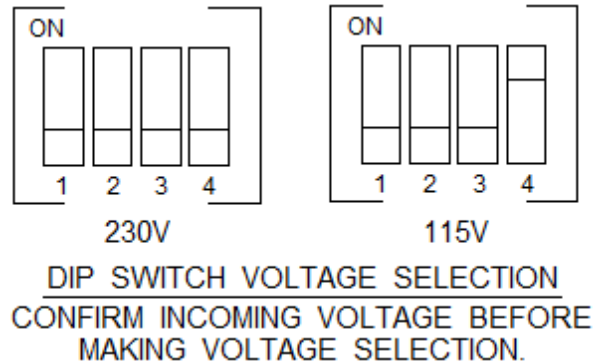

**Figure 1 – High and Low Voltage Compartments**
There are two voltage options when operating the 1.65THP pool pump motor. In this case, the motor operates on either 115 or 230 Vac electrical power. Voltage selection is set via the Dip Switch on the Drive Interface Board located in the Low Voltage Compartment. See Figure 1 on **page 10**. Refer to the section of the manual covering DIP Switch settings on **page 28**. Operating the 2.25 and 2.7THP motors requires 230 Vac. In this case, no change to the DIP Switch is necessary.
1. Remove the four (4) slotted head hex washer screws securing the User Interface Cover to the wiring compartments (Figure 1). Set the cover aside.
Input power and control signals are via conduit connections. There are two compartments: See Figure 1 on page 10.